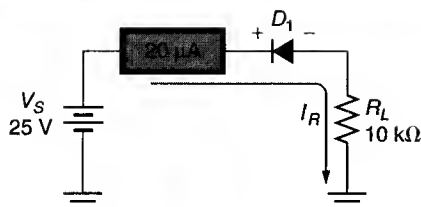

FIGURE 2.21
Until now, we have assumed that the value of I_R is zero. As you now know, a small amount of reverse current occurs in a diode circuit. This reverse current causes a slight voltage to be developed across any resistance in the circuit. An example of this is shown in Figure 2.21. We have an applied voltage of 25 V and a diode reverse current of 20 μA . We can calculate the component voltage values as follows: The voltage across the load resistor is found as
The voltage developed across any series resistance by I_R is usually insignificant. For example, only 0.8% of the supply voltage in Figure 2.21 is developed across R_1 . However, knowing the potential effects of reverse current is important for several reasons. First, any voltage across the series resistance may increase dramatically with increases in operating temperature (and the resulting increases in diode reverse current). Second, it explains why we often do not measure the full applied voltage across a reverse-biased diode. (In most cases, the voltage across a reverse-biased diode is slightly lower than the applied voltage.)
13. Determine the reverse resistance of the diode in Figure 2.21.